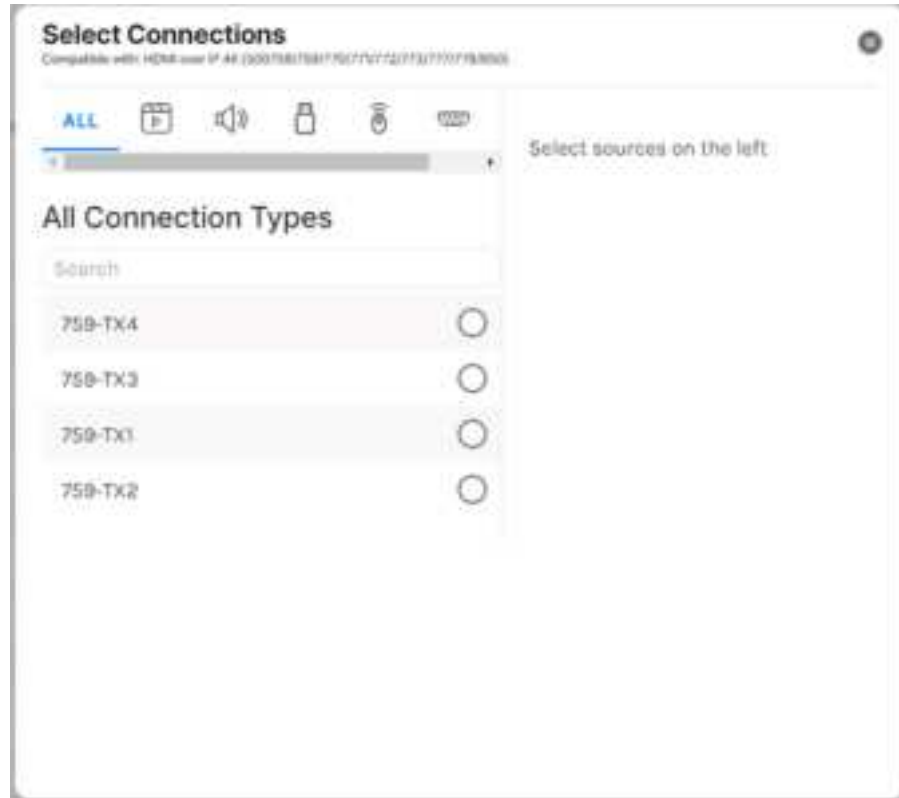

Figure 25
- C.) ADVANCED:** Clicking on the “ADVANCED” option will display a pop-up window in which the user can independently matrix the video, audio, infrared and RS232 serial port. Figure 25